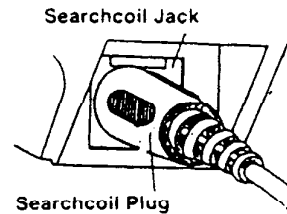

Figure 4
6. Plug in the search coil's plug into the search coil jack on the Metal Detector's control panel. Make sure that the pins on the plug align with the holes in the jack (see Figure 4).